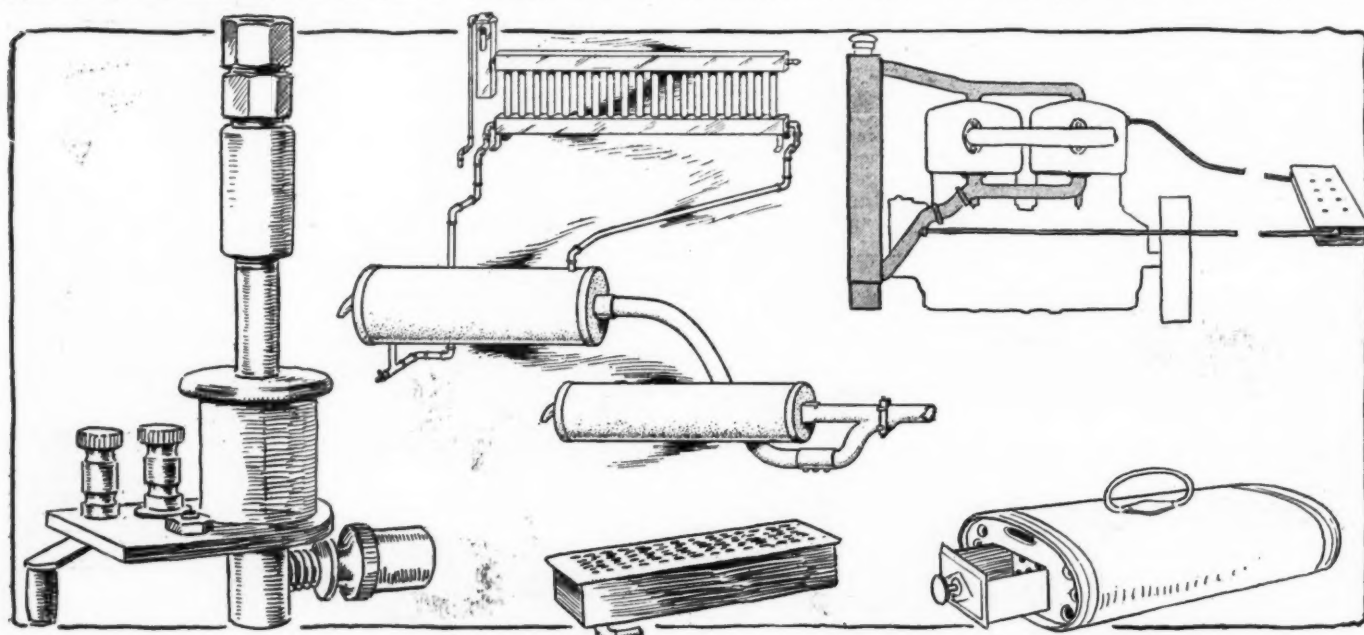

Fig. 7—Better getter gasoline primer. Fig. 8—Robinson auto heater. Fig. 9—Radio car heater. Fig. 10—Peerless hot-water heater. Fig. 11—Lehman foot warmer
**BETTER Getter Economizer**—Another electric vaporizer idea is exemplified in the Better Getter Gasoline Economizer Co.'s product, Fig. 7. It is very simple; just a piece of  $\frac{1}{8}$ -inch pipe, which is inserted in the gasoline line and which has a small heating coil around it. The coil is well insulated and protected from the air by a heavy composition material. The battery leads are connected to the brass terminals shown at the right. A switch is provided on the vaporizer, but it is more convenient to operate the device from one on the dash, and this is what is generally done.